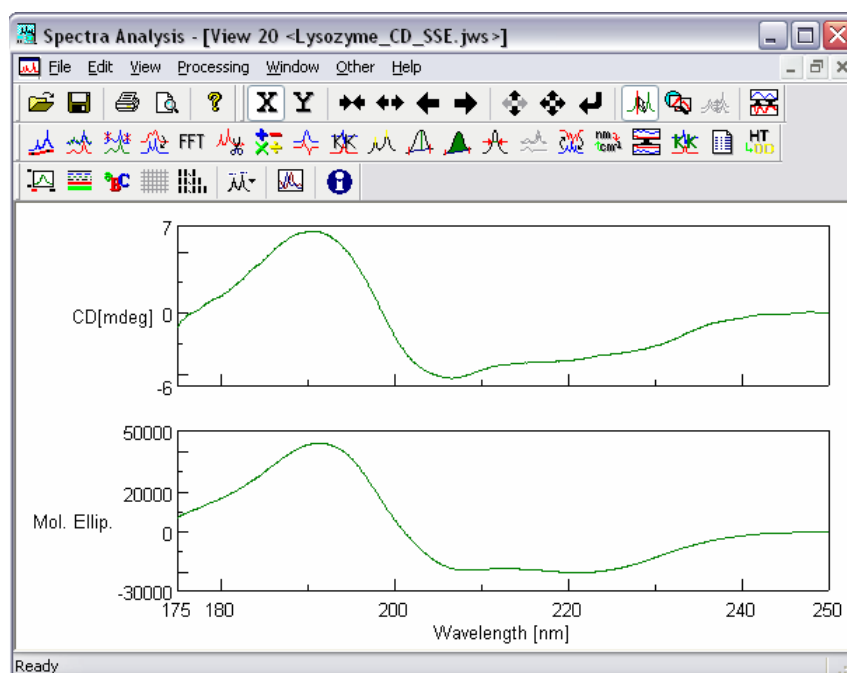

Figure 7.20 Spectrum View (after the operation)
The content of ch# can be selected from several different files. This is performed by overwriting several loaded files following the procedure (1) and following steps (2) – (7). Figure 7.20 shows an example, where ch#1 and ch#2 is CD (mdeg) and Mol. Ellip., which are extracted from different files.
- (1) Load several JASCO standard or JASCO Old Std files into the Spectra Analysis Window following the procedure described in Section 7.2. We used the data of Fig. 7.20 here, as an example (file name is “Lysozyme\_CD\_SSE.jws”).
- (2) Click on [Processing] - [Common-Options] - [Arithmetic with Channel...]. The following dialog box appears.
- (1) Load several JASCO standard or JASCO Old Std files into the Spectra Analysis Window following the procedure described in Section 7.2. Figure 7.20 data is used here, for example (File name is "Lysozyme\_CD\_SSE.jws").
- (2) Click on [Processing] - [Common-Options] - [Arithmetic with Data...]. The following dialog box appears.